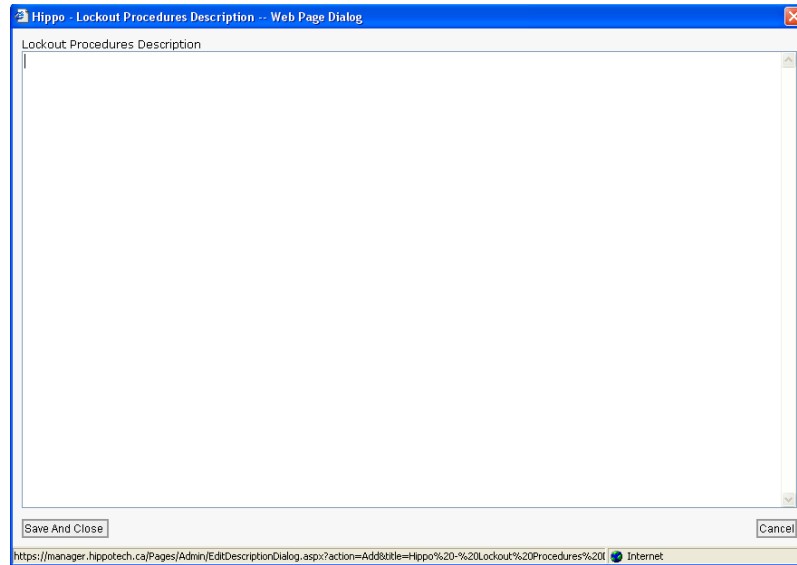

Figure 39: Lockout Procedure Description
- b. Lockout Procedures (click the **edit lockout procedures** to edit this work order's lockout procedures (See Figure 39))